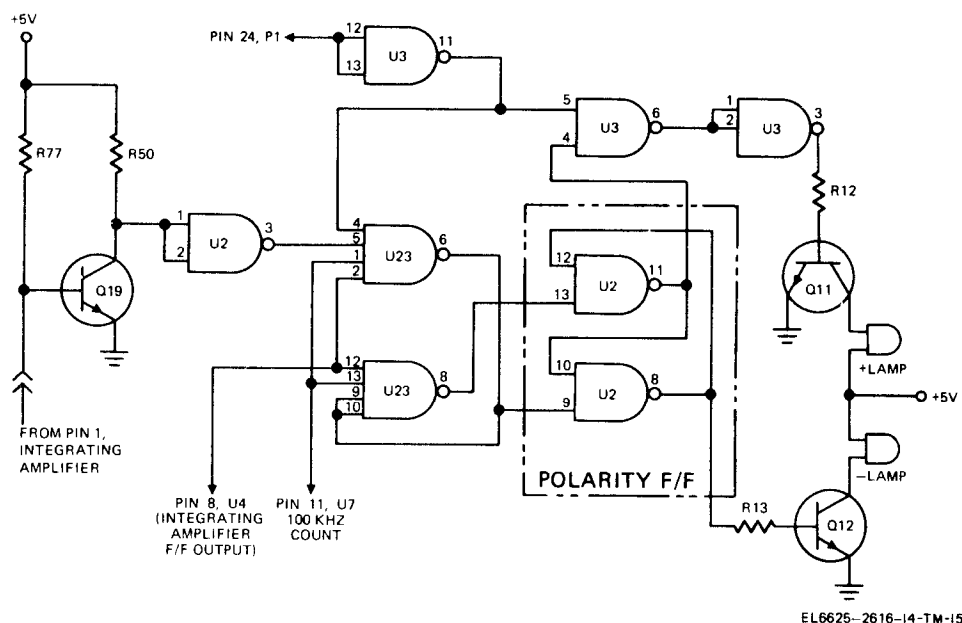

Figure 5-8. Polarity circuits, simplified schematic diagram.
b. The polarity signal at the collector of Q19 (fig. 5-8) is fed to pins 1 and 2 of buffer U2. Buffer output (pin 3) feeds a gate signal to pin 5 of U23. Pin 4 of U23 is held on continuously by U3 (pins 11, 12, and 13) which is used in conjunction with an ac converter. Pin 2 is gated by the 200-millisecond pulse from the output of the input integrating flip-flop (U4, pin 8) which also gates on by pin 11 of U7. The timing insures an optimum sampling of signal polarity.